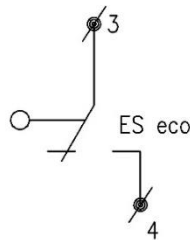

figure 7 Connecting the safety devices electrically
5. When the position is final, drill 8 mm holes through the condenser construction and legs (figure 6) and fix with the securing bolts (figure 7). When the condenser is warm (at first operation) tighten again all bolts with a torque wrench at 21 Nm, see §5.1.
Never put the condenser to operation when the water flow is too poor or the water level is too low. **This is also applicable when the bypass valve is in bypass position.** Safety devices (max. thermostat, pressure switch and end switch on the bypass valve) are electrically connected to and monitored by the burner management system, see figure 7 on page 14. When exceeding their set values, they have to cause the burner to lockout. Non proper connection or testing can lead to hazardous situation.